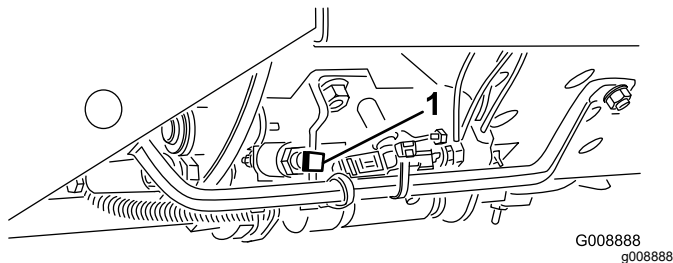

Figure 20
**Important:** The mow speed is set at the factory to 9.7 km/h (6 mph). It can be increased or decreased by adjusting the speed stop screw (Figure 20).